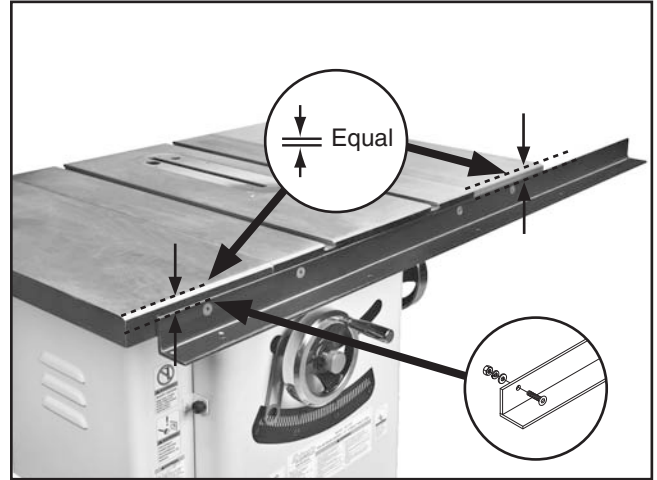

Figure 18. Front rail installed.
- Attach the front rail to the table and extension wings with four M8-1.25 x 35 flat head screws, 8mm flat washers, 8mm lock washers, and M8-1.25 hex nuts, as shown in **Figure 18**. Make sure the top of the rail is parallel with the table top before fully tightening the fasteners.